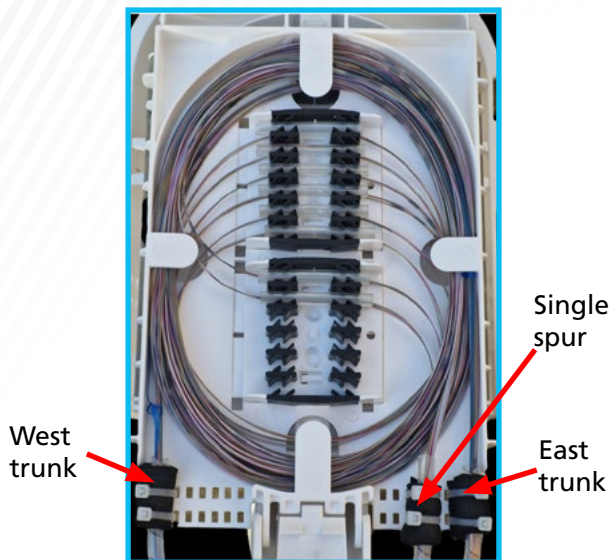
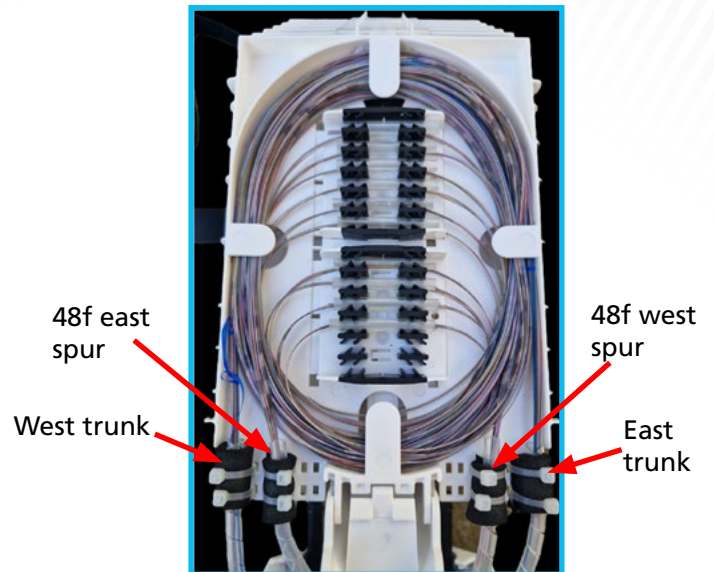

Figure 44 - Single spur
Figure 45 - Dual spur
3. Attach the fibre to the splice tray using foam and cable ties. **figure 44** shows the single spur, **figure 45** details the Dual Spur.